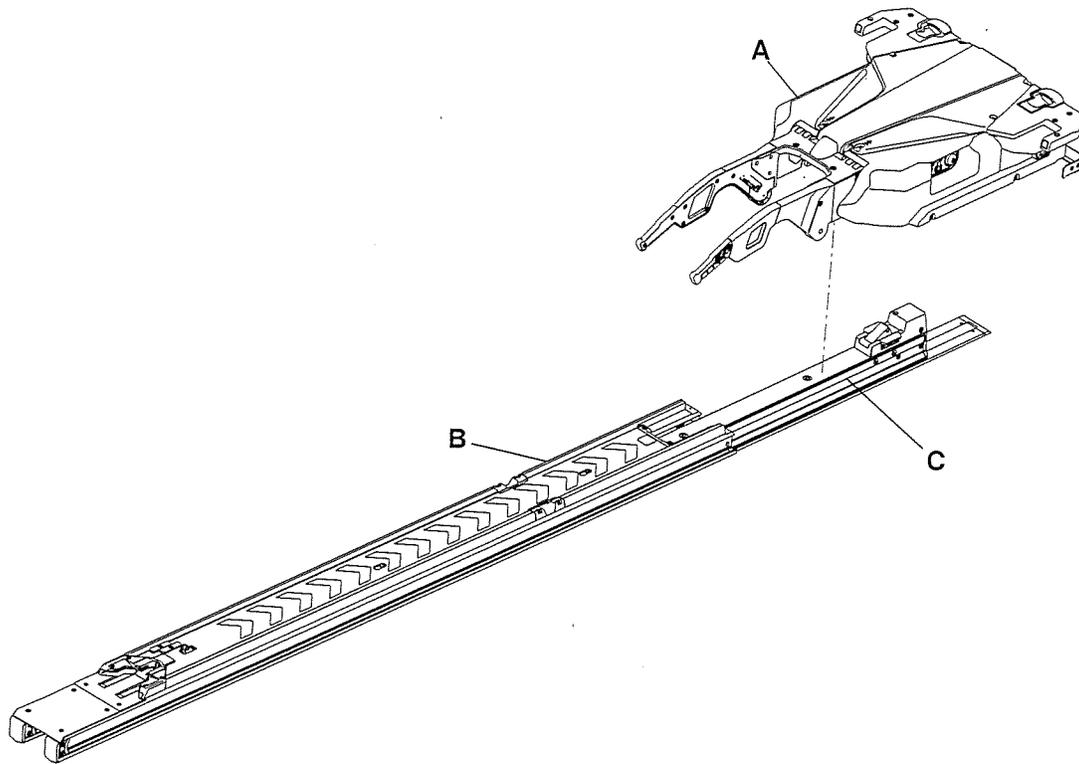

Figure 14: Position the trolley assembly
21. Position the trolley assembly (A) between the transfer assembly (B) and head end of the anchor assembly (C) on the floor (Figure 14 on page 23).